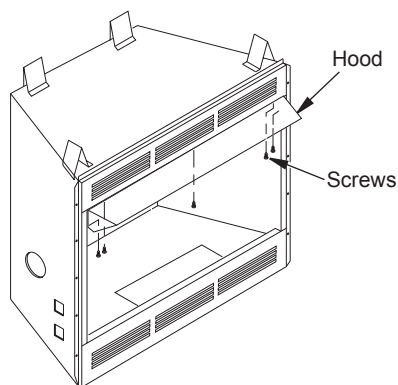

Figure 18 - Screw and Hood Placement (Model May Vary From Illustration)
1. Attach hood to firebox using screws provided (see Figure 18).